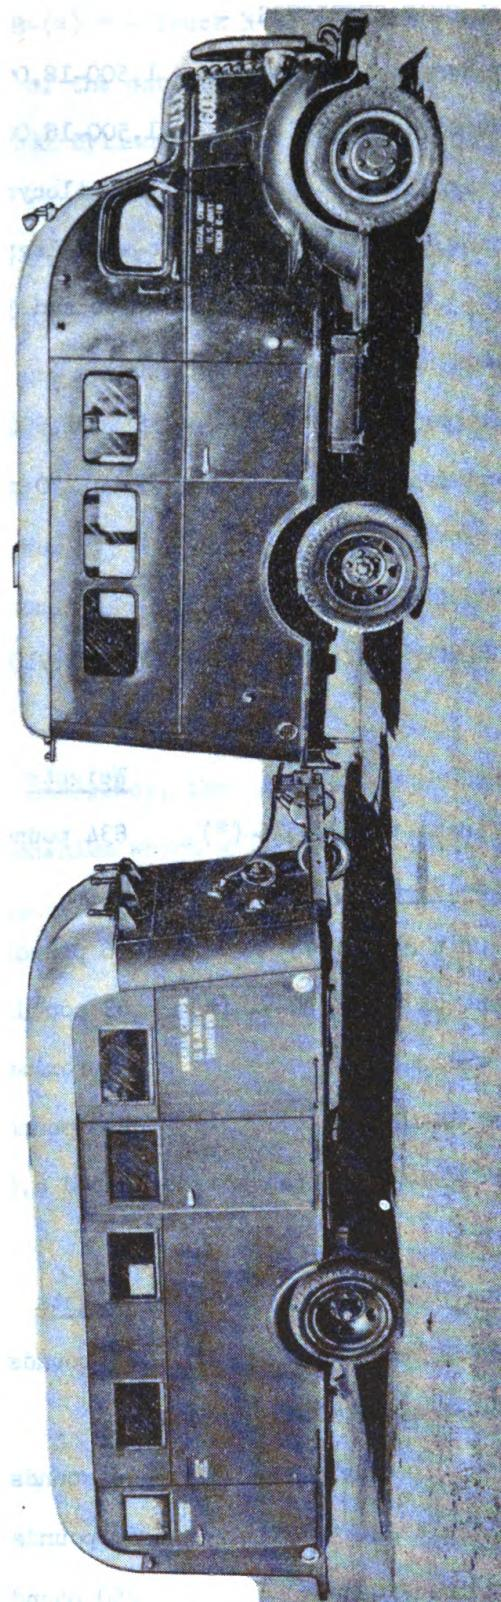

Figure 1. - Radio Set SCR-197-(*), with the Trailer K-19-(*) in position in rear of Truck K-18-(*)
10. PHYSICAL CHARACTERISTICS. - Radio Set SCR-197-(*) is a high-power portable radio station. The transmitting equipment is installed in Truck K-18-(*) and the receiving equipment is installed in trailer K-19-(*). Commercial sources of power are used when available. Gasoline-engine driven power units for both the transmitting and receiving equipment are furnished and used when commercial power is not available. The transmitter may be remotely controlled using voice, tone, or c-w operation from remote positions up to a distance of 7-1/2 miles by means of commercial telephone lines or Wire W-110 lines. During field operations, Truck K-18-(*) tows Trailer K-19-(*) to the receiving location. The trailer is situated at this location and the Truck K-18-(*) proceeds to the transmitting location. Figure 1 shows a complete Radio Set SCR-197-(*).